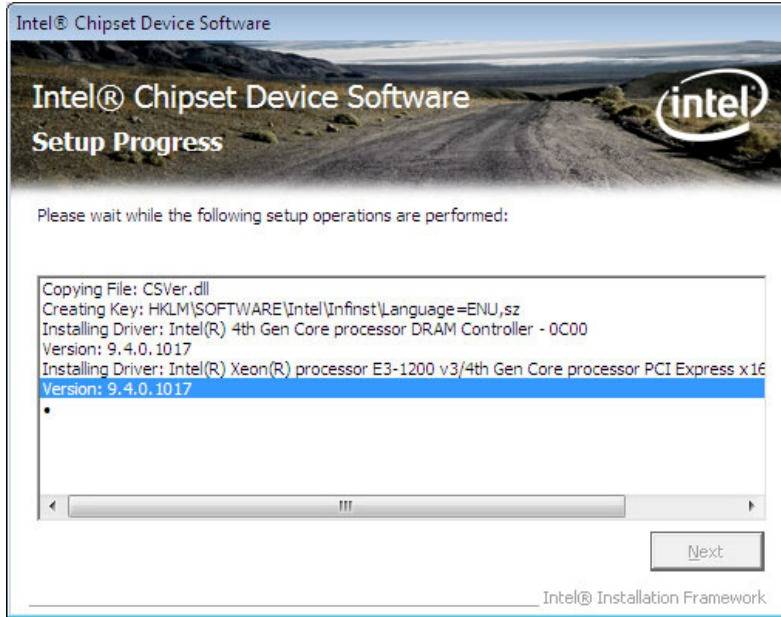

Figure 6-4: Chipset Driver Setup Progress
Step 11: Setup Progress is performed as shown in **Figure 6-4**.